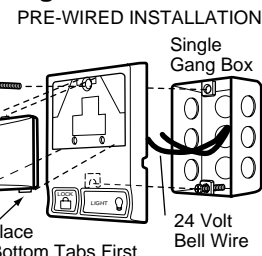

Figure 3 MULTI-FUNCTION DOOR CONTROL (BACK)
- Strip 1/4" of insulation from one end of bell wire and connect to the two screw terminals on back of door control by color: white wire to 2 and white/red wire to 1 (Fig. 3).